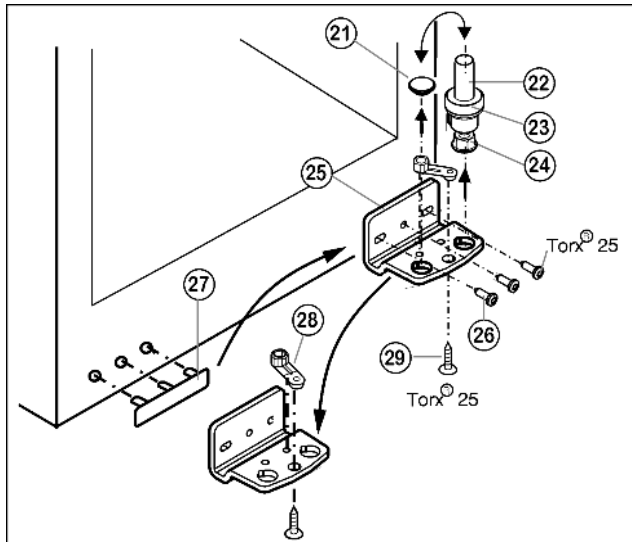

Fig. 6
- ▶ Lift out the bearing pin Fig. 6 (22) together with washer Fig. 6 (23) and adjustable-height foot Fig. 6 (24).
- ▶ Lift off the stopper Fig. 6 (21).
- ▶ Unscrew Fig. 6 (26) the turn hinge Fig. 6 (25).
- ▶ Unscrew Fig. 6 (29) the bearing element Fig. 6 (28), transfer it to the opposite location hole of the turn hinge and screw it firmly into place.
- ▶ Carefully lift off the cover on the handle side Fig. 6 (27) and transfer it to the opposite side.
- ▶ Screw the turn hinge Fig. 6 (25) firmly into place on the new hinge side, possibly using a cordless screwdriver (with 4 Nm).
- ▶ Re-insert the stopper Fig. 6 (21) into the other hole.
- ▶ Re-insert the bearing pin Fig. 6 (22) together with the washer and adjustable-height foot. In so doing, pay attention that the locating lug points backwards
- ▶ Place the door from above onto the lower bearing pin Fig. 6 (22).
- ▶ Align the door to the appliance housing by way of the two oblong holes in the bottom turn hinge Fig. 6 (25). To do so, unscrew the middle screw.